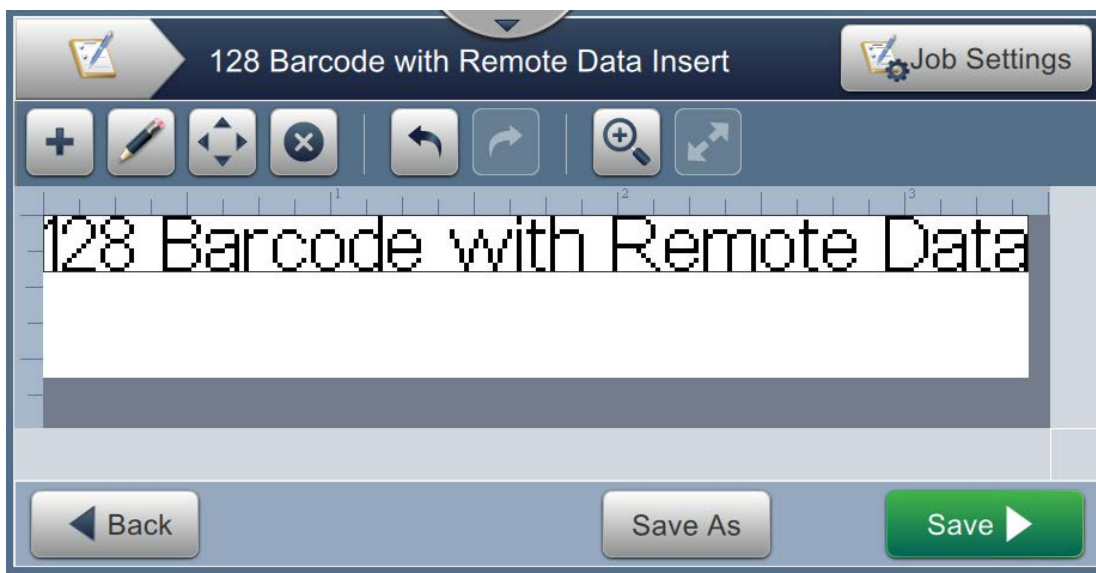

Figure 3-31: Job Editor Screen
8. The Job Editor screen appears as shown in Figure 3-31.